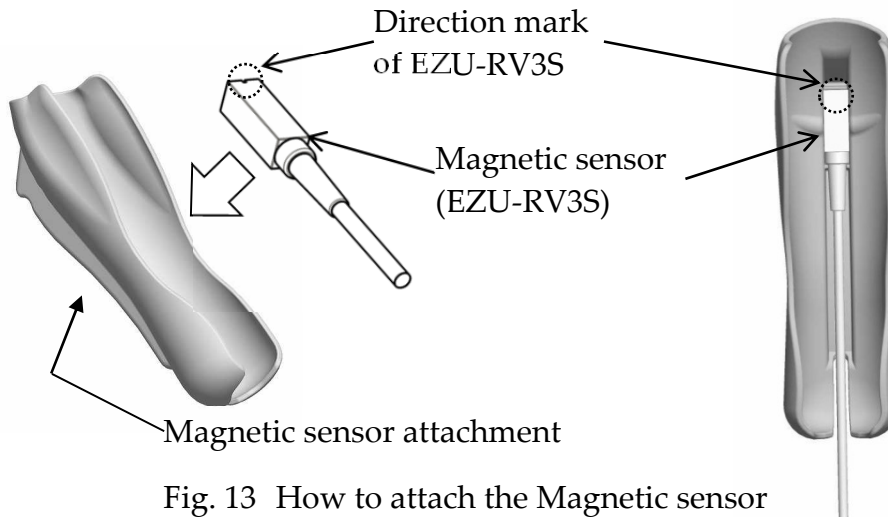

Fig. 13 How to attach the Magnetic sensor
- 2) Insert Magnetic sensor into the Magnetic sensor attachment in the correct direction as shown in Fig. 13.